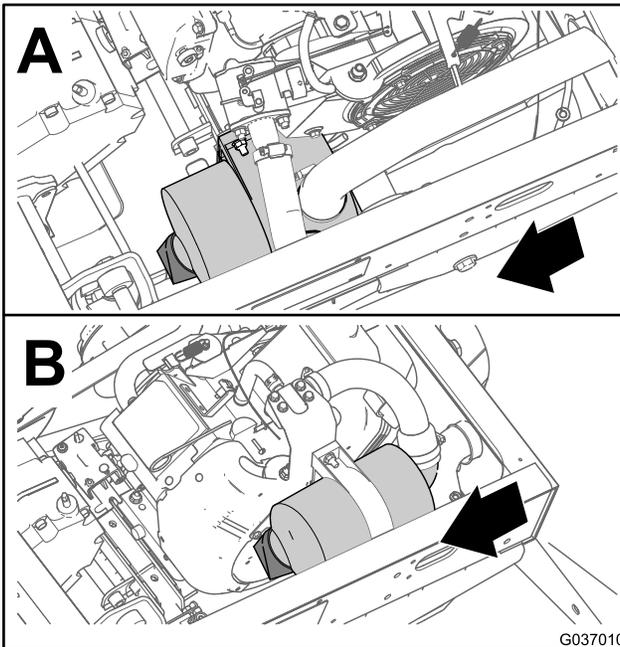
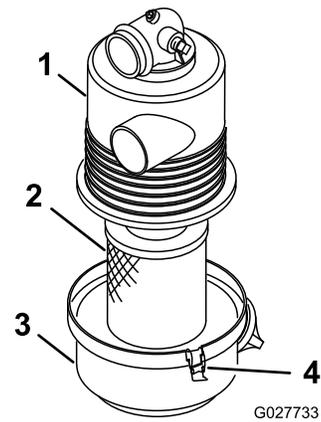

Figure 36
Figure 37
2. Check the air-cleaner body for damage which could possibly cause an air leak (Figure 36 and Figure 37).
3. Release the latches securing the air-filter cover to the air-filter housing (Figure 37).
4. Separate the air-filter cover from the air-filter housing, and clean the inside of the cover (Figure 37).
3. Insert the air-filter element into air-filter housing (Figure 37).
4. Align the air-cleaner cover with the air-cleaner housing (Figure 37).
5. Secure the cover to the housing with the latches (Figure 37).